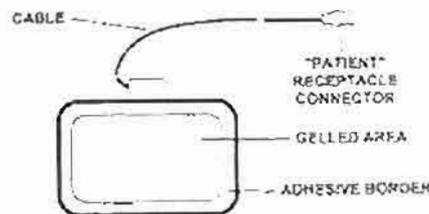

Figure 2-12 Patient return electrode (disposable).
(2) *Patient return electrode (disposable) (fig 2-12).*